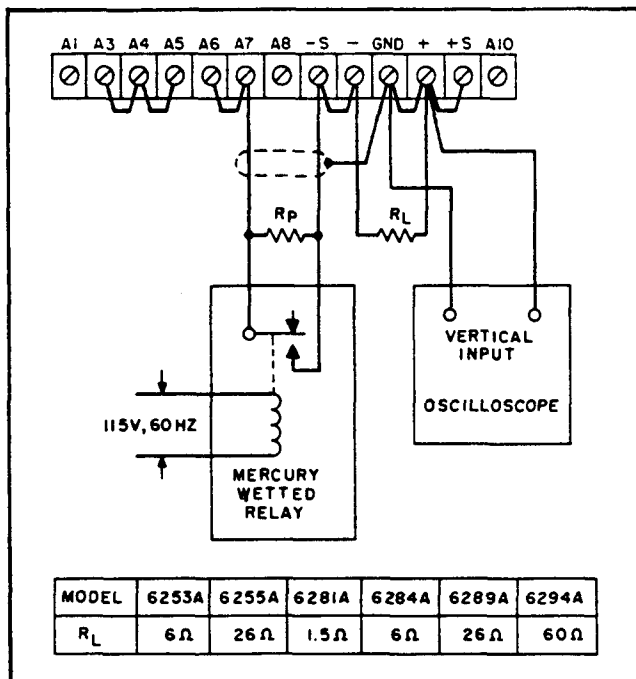

Figure 5-10. Constant Voltage Programming Speed Test Setup
5-32 Programming Speed. This measurement is made by monitoring the output voltage with an oscilloscope while rapidly changing the remote programming resistance. For up-programming, the remote resistance is varied from zero ohms to the value that will produce maximum output voltage; and for down-programming, the remote resistance is varied from the value that will produce maximum output voltage to zero ohms. To check the up-programming speed, make the connections indicated in Figure 5-10; for down-programming, simply remove R_L.
1. Restrap the rear barrier strip as indicated in Figure 5-10. Note that the jumper between +S and A10 is removed. This disconnects the output capacitor C20 to increase the programming speed. A minimum amount of output capacitance (C19) is permanently wired to the output and should not be removed, because the supply could oscillate under certain load conditions. The programming speed increases by a factor of from 10 to 100 when the output capacitor C20 is removed.
2. Connect the relay, oscilloscope, and programming resistor R_p as illustrated in Figure 5-10. Select the value of the programming resistor that will produce maximum output voltage of the supply. This value is obtained by multiplying the programming coefficient (200 ohms/volt, 300 ohms/volt for Model 6294A) by the maximum rated output voltage of the supply.
4. The time (T) required for the output voltage to change from zero volts to maximum rated output or from maximum rated output to zero should be less than 10 milliseconds.